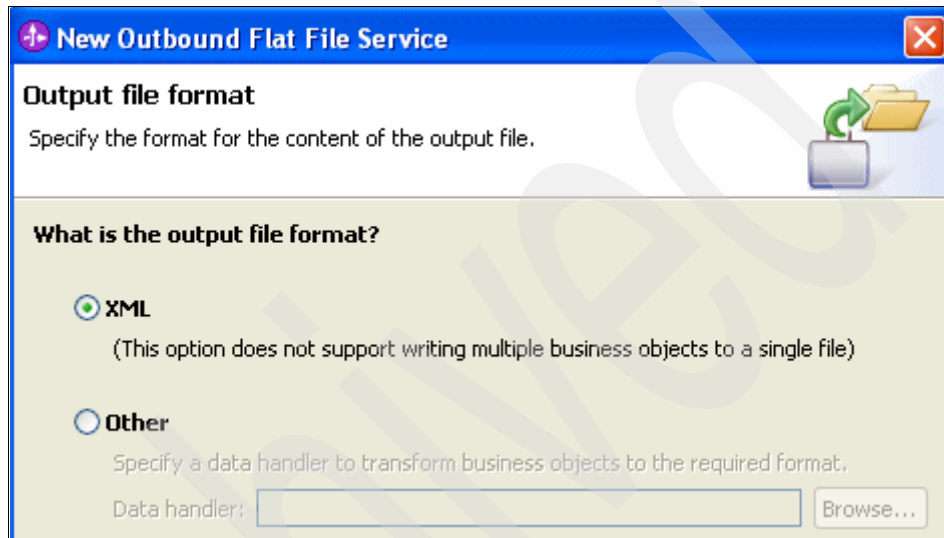

Figure 4-18 File type selection will be the default
6. In the next panel (Figure 4-18), leave the file type as **XML** (the default type).